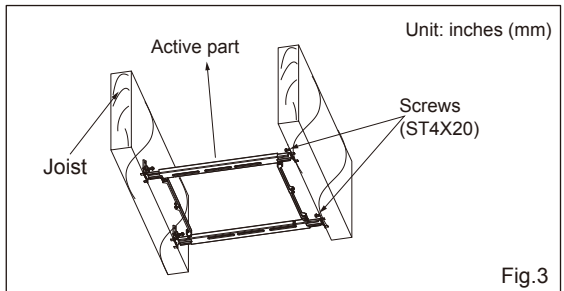

Fig.3
2. Fix one side of the bracket assembly to the joists by drilling 2 tapping screws (ST4x20) which have been fixed on it. (Fig.3)
3. Adjust the length of bracket assembly as the spacing between joists, and install to joist by drilling the other 2 tapping screws which have been fixed on the other side. Adjust the active part of bracket assembly to the proper position. (Fig.3)